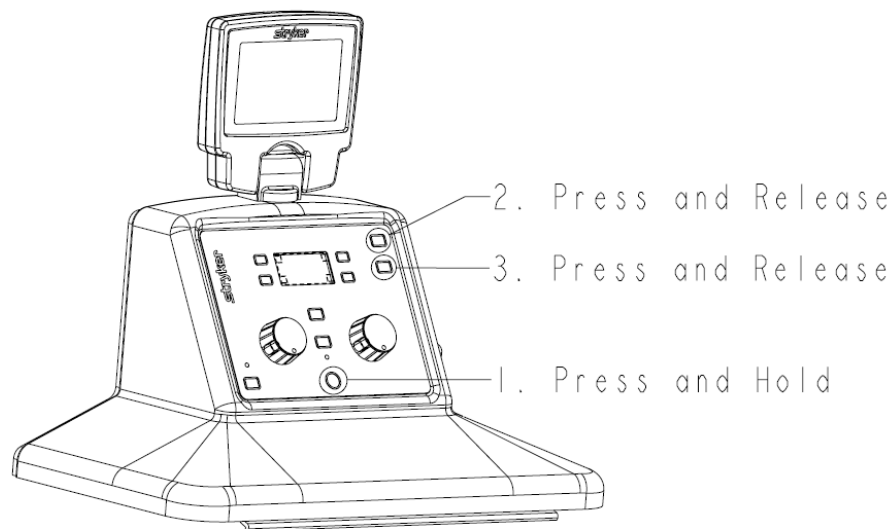

Figure 3: Accessing the Technician Menu
3. To access the technician menu from the system settings menu, hold down the Vacuum System power button, then press and release the IV Pole UP button, and then press and release the IV Pole DOWN button. (see figure 3)